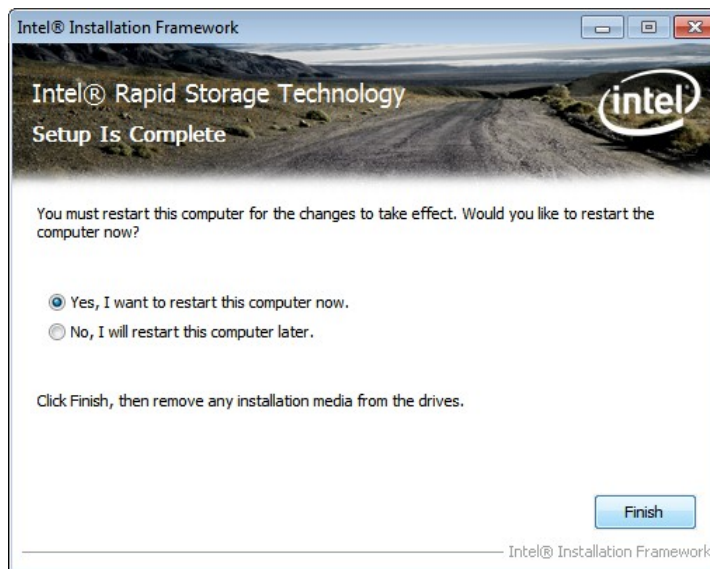

Figure 6-26: SATA RAID Driver Installation Finish Screen
Step 13: The **Finish** screen in Figure 6-26 appears.